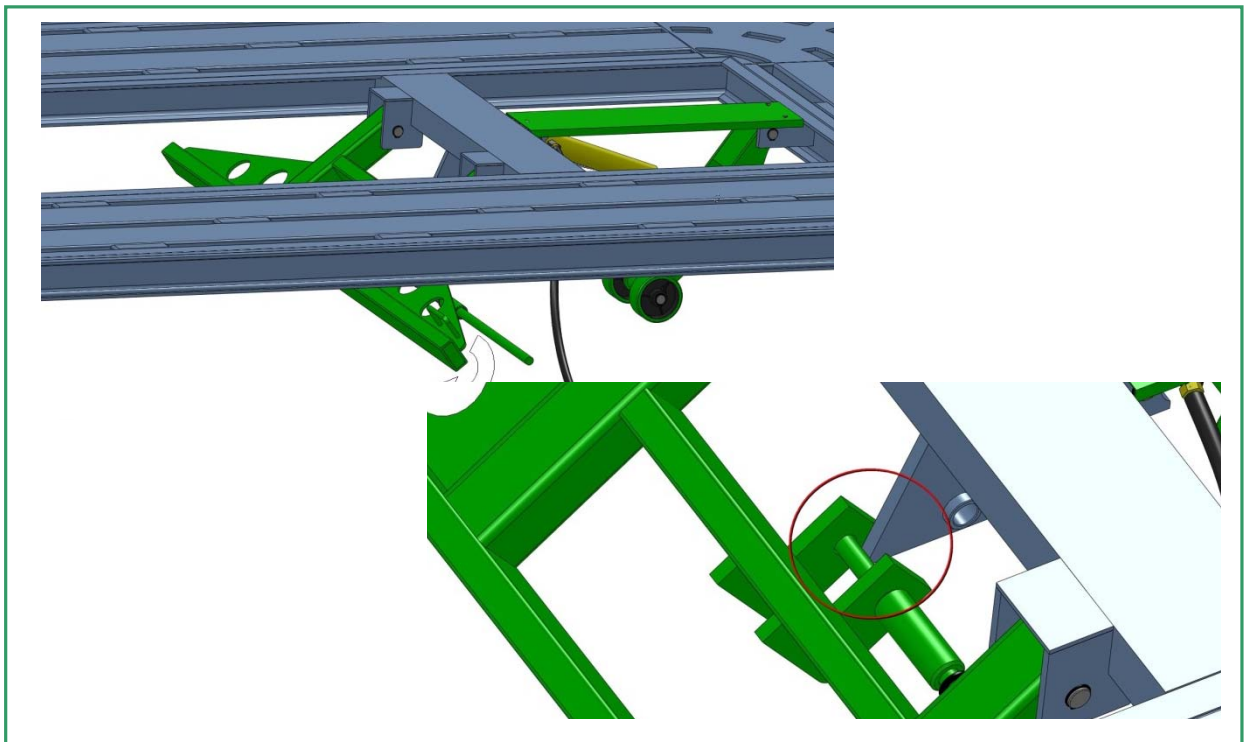

Figure 6.30
D. Swing the movable support backward, until the locking bar lock the movable support in a declined degree. Then operate the pneumatic pump to let the platform descend onto the ground. See figure 6.30